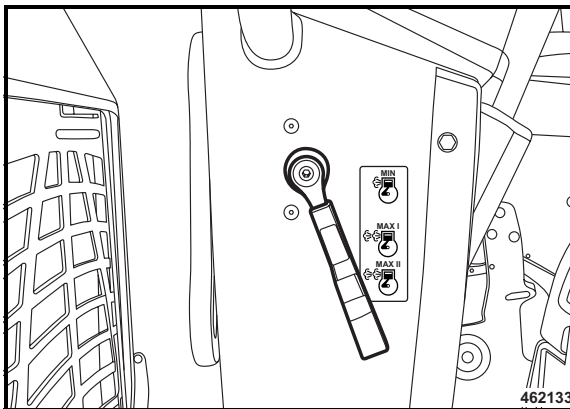

Fig. 73
- Set the throttle lever (Fig. 73) to position "Max I" or "MAX II".